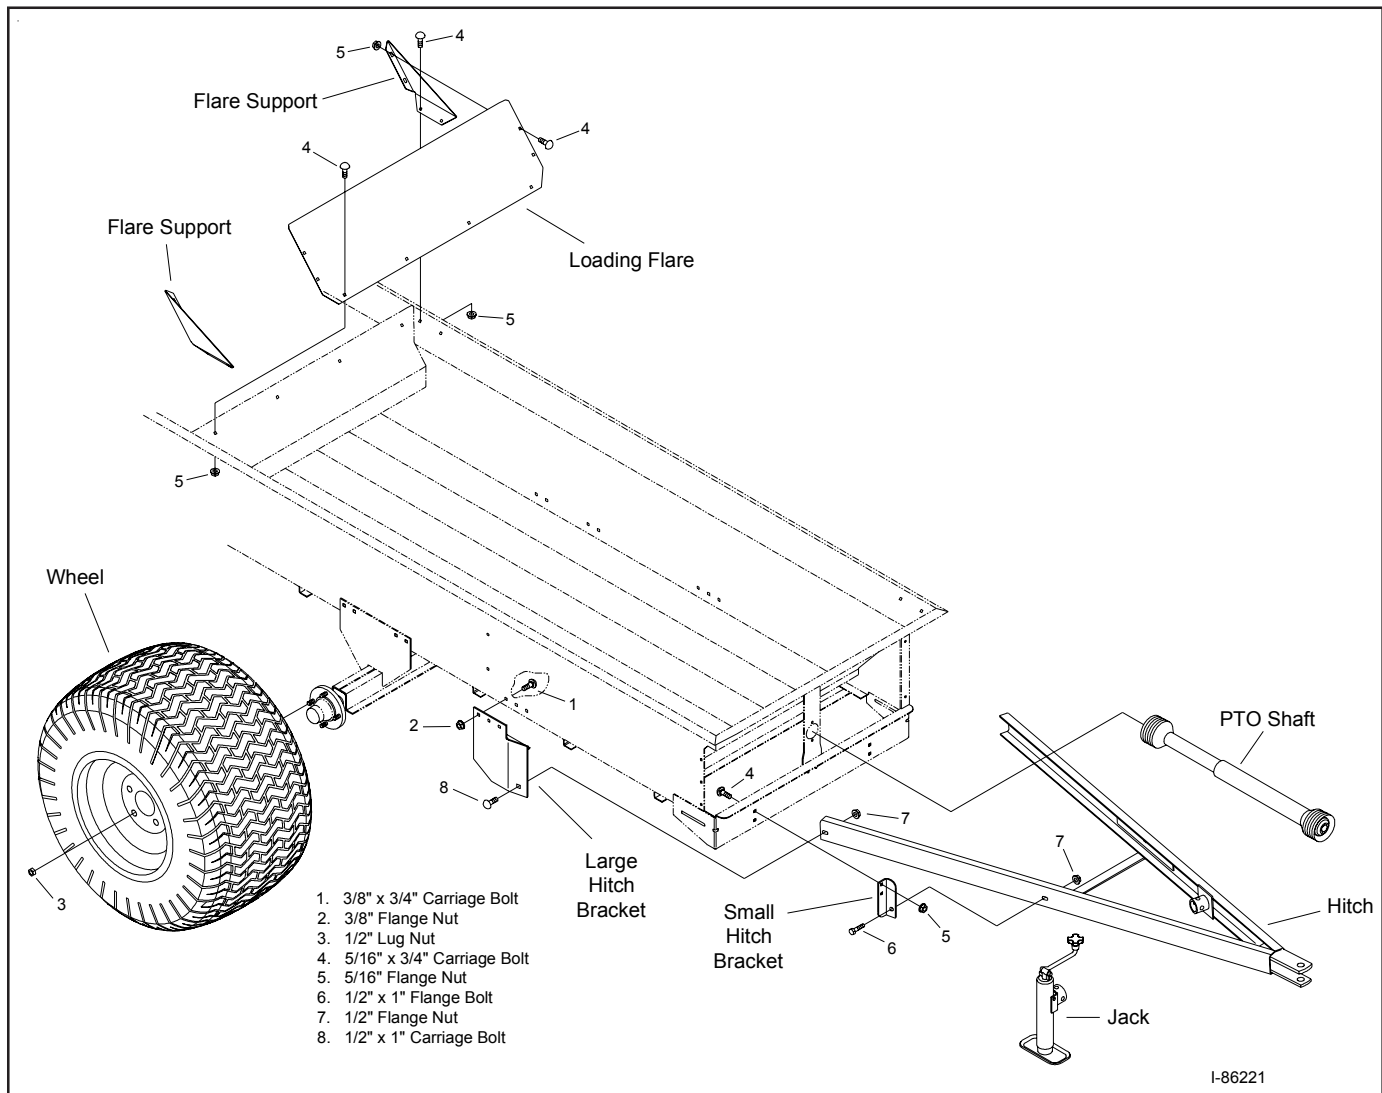

Figure 1 - Detailed Overview of Model 3100/3200 Spreader Assembly
1. Refer to Figure 1.
1. Refer to Figure 1 for positioning of the jack.
1. Refer to Figures 1 and 2.